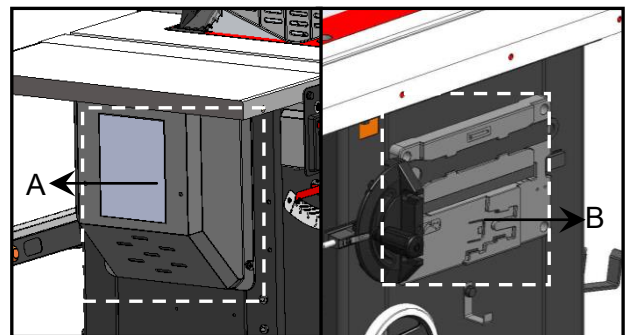
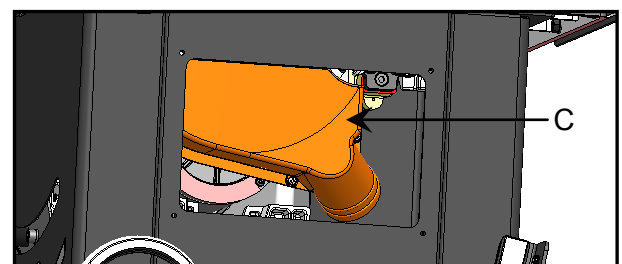

Fig. 22
Fig. 24
1. Remove the motor cover A, Fig. 22 for blade height screw.
3. Remove the storage box B, Fig.22 for clean and remove dust, debris from dust Hood C, Fig. 24